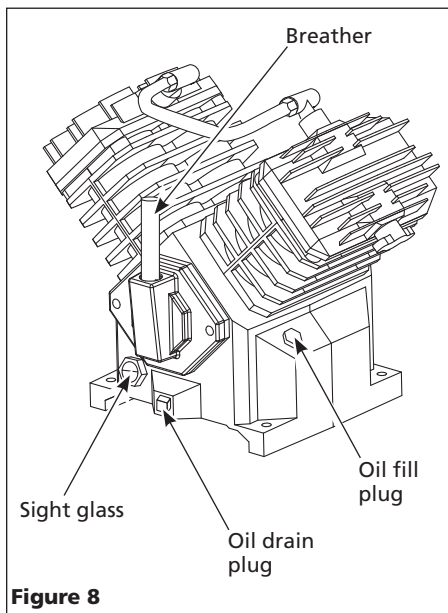
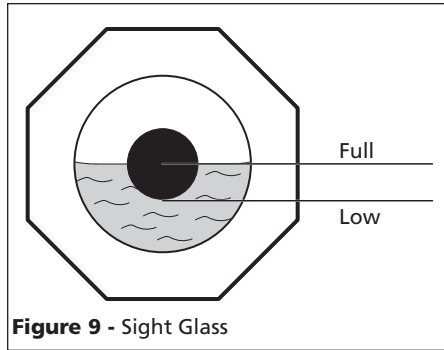

Figure 8
Figure 9 - Sight Glass
Do not use regular automotive oil. Additives in regular motor oil can cause valve deposits and reduce pump life. For maximum pump life, drain and replace oil after the first hour of run time. This pump has an oil sight glass as shown in Figure 8. Oil level can be monitored and maintained as shown in Figure 9.
1. Remove cap from oil fill opening. Fill pump to the proper oil level (see Figure 9). Install breather (found in parts bag with this manual or hanging from cylinder).
- c. Remove oil drain plug (See Figures 8). Allow oil to collect in pan.
- d. Replace drain plug, fill pump to full level (See Figures 8 and 9). Use Mobil 1 10W-30 synthetic motor oil.